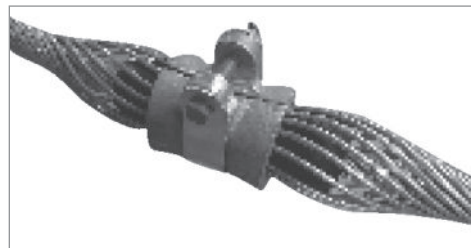

FIGURE 8: Final assembly
- 5.03 Apply the lock washer, bolt, nut and cotter pin to the bolt opening and tighten the bolt until the lock washer is collapsed. Final assembly shown in **Figure 8**.